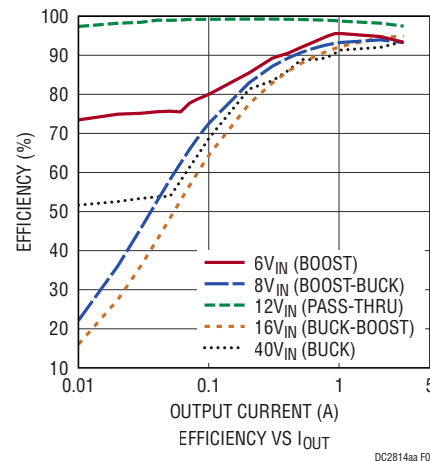

Figure 4. Efficiency vs I_{OUT}
4. Turn on the input power supply and then check for the proper output voltages. V_{OUT} should be between 8V to 16V, depending on the input voltage (see Figure 4).